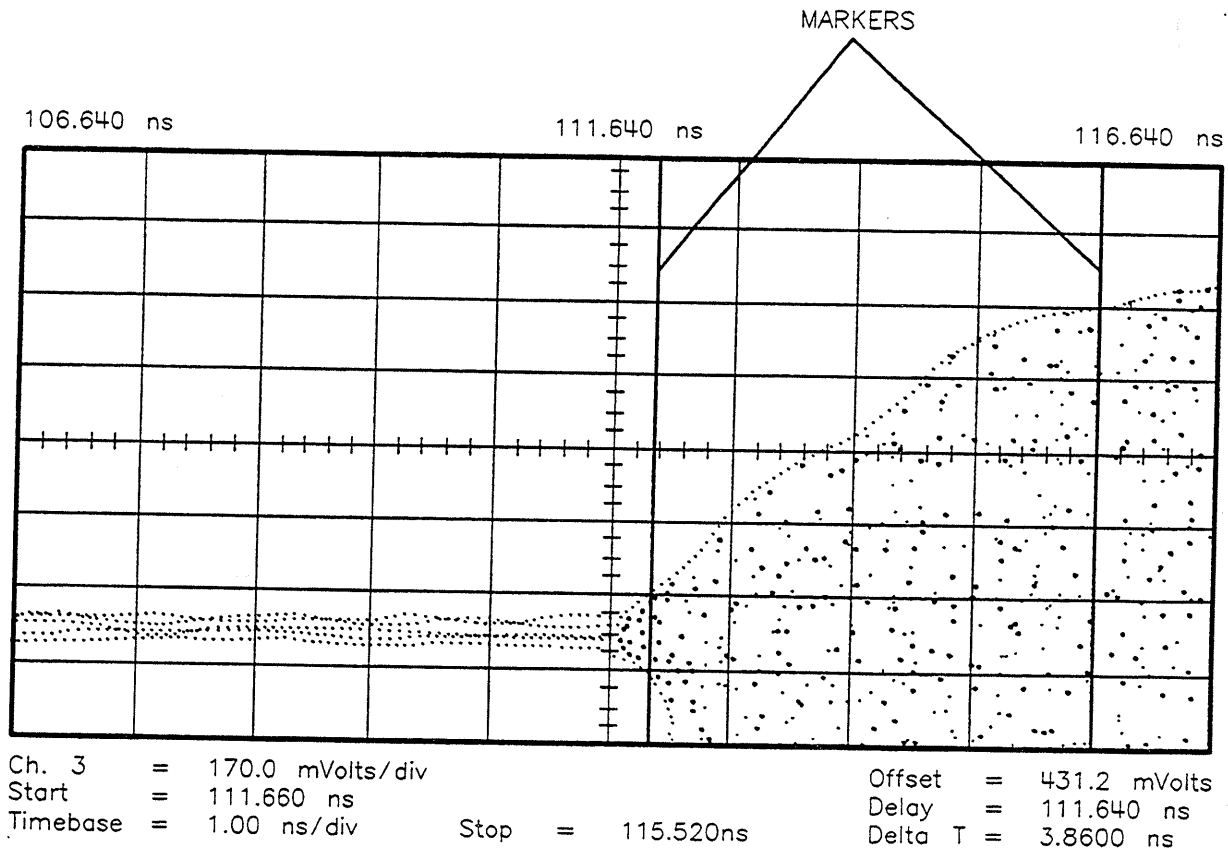

Figure 2-17. Widened Pulse Envelope
- d. Adjust the oscilloscope timebase to widen the pulse envelope so that the measurement can be made with greater accuracy (see Figure 2-17).